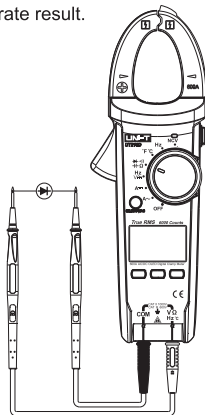

Fig. 9
8.Measurement of diode (shown as Fig. 9)